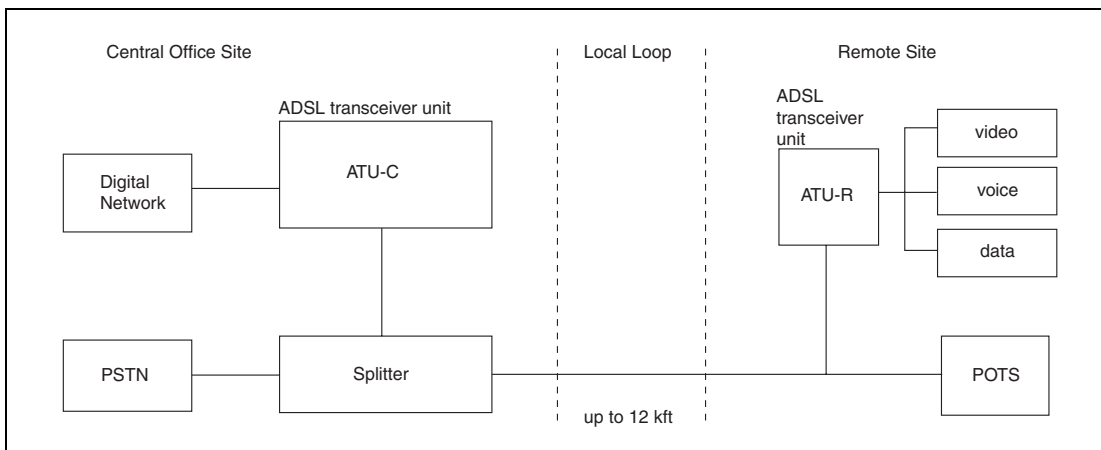

Figure 3.7 ADSL Overview
Transmission equipment should be protected against overvoltages that can exceed 2500 V and surge currents up to 500 A. In Figure 3.7 through Figure 3.17, *SIDACTor* devices were chosen because their associated peak pulse current (I_{PP}) rating is sufficient to withstand the lightning immunity tests of GR 1089 without the additional use of series line impedance. Likewise, the fuse shown in Figure 3.7 through Figure 3.17 was chosen because the amps^2time (I^2t) rating is sufficient to withstand the lightning immunity tests of GR 1089, but low enough to pass GR 1089 current limiting protector test and power cross conditions (both first and second levels).
Asymmetric Digital Subscriber Lines (ADSLs) employ transmission rates up to 6.144 Mbps from the Central Office Terminal (COT) to the Remote Terminal (RT) and up to 640 kbps from the RT to the COT at distances up to 12,000 feet. (Figure 3.7)